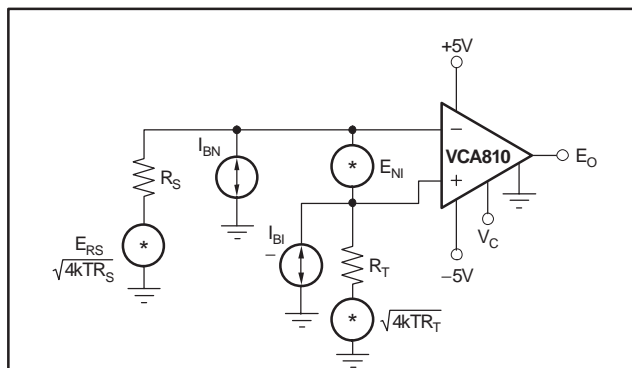

Figure 20. VCA810 Noise Analysis Model
The VCA810 offers  $2.4\text{nV}/\sqrt{\text{Hz}}$  input-referred voltage noise and  $1.8\text{pA}/\sqrt{\text{Hz}}$  input-referred current noise at a gain of  $+40\text{dB}$ . The input-referred voltage noise, and the input-referred current noise terms, combine to give low output noise under a wide variety of operating conditions. Figure 20 shows the op amp noise analysis model with all the noise terms included. In this model, all noise terms are taken to be noise voltage or current density terms in either  $\text{nV}/\sqrt{\text{Hz}}$  or  $\text{pA}/\sqrt{\text{Hz}}$ .
The total output spot noise voltage can be computed as the square root of the sum of all squared output noise voltage contributors. Equation (8) shows the general form for the output noise voltage using the terms shown in Figure 20.